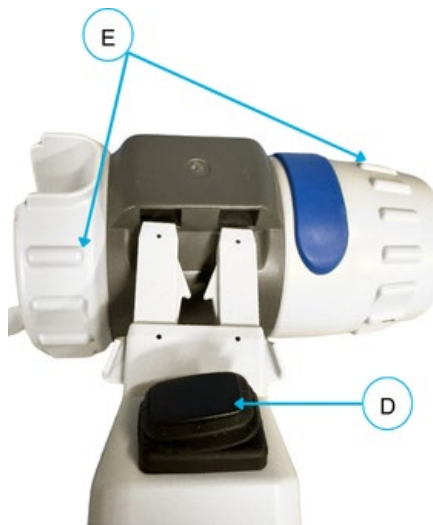

Figure 12-11: Delivery Device Rotating Members
1. Press the Stabilizer Power Switch (D) to allow movement of the Delivery Device Stabilizer Arm (**Figure 12-11**).
1. Rotate the Delivery Device using the light gray sections of the device body (E) to achieve the desired Needle delivery angle (**Figure 12-11**).
5. Press the Delivery Device **Stabilizer Power Switch (D)** (**Figure 12-11**) to relock the Stabilizer Arm in place.